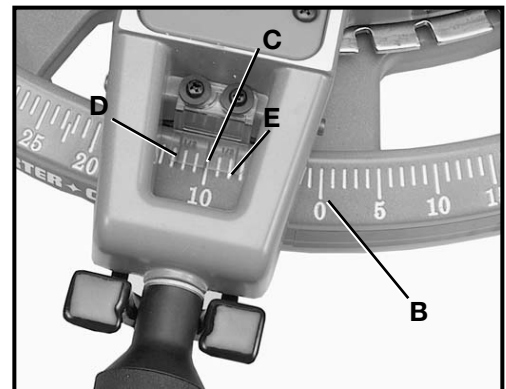

Fig. 13
3. The center line, (C) Fig. 13, on the cursor indicates the actual angle of cut. Each scale line (B) represents one degree. In effect, when the center line (C) is moved from one line to the next on the scale, the angle of the cut is changed by one degree.